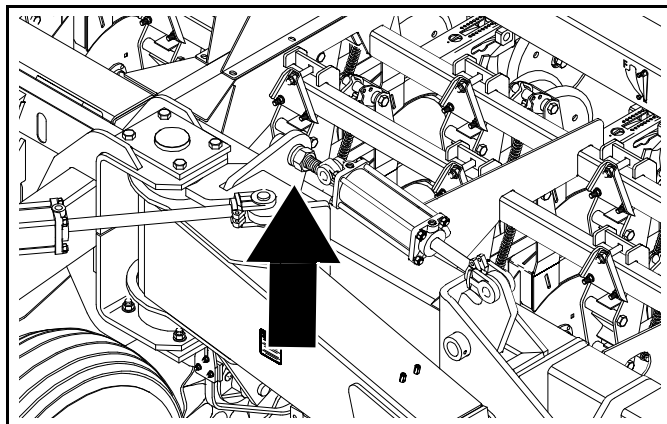

Figure 12
- If the transport hooks at the end of either box will not clear the carriers, shorten the eye-bolt adjustment on the corresponding tool-bar cylinder. The eye-bolt adjustment is shown in Figure 12. Shorten the eye-bolt adjustment until the transport hooks clear the carriers by one inch. Tighten the nuts on the adjustment when you have attained the proper length.
- If the transport hooks at the end of either box completely swing over the transport carriers, lengthen the adjustment eyebolt on the corresponding tool-bar cylinder. The eye-bolt adjustment is shown in Figure 12. Lengthen the eye-bolt adjustment until the transport hooks clear the carrier pins by one inch. Tighten the nuts on the adjustment when you have attained the proper length.